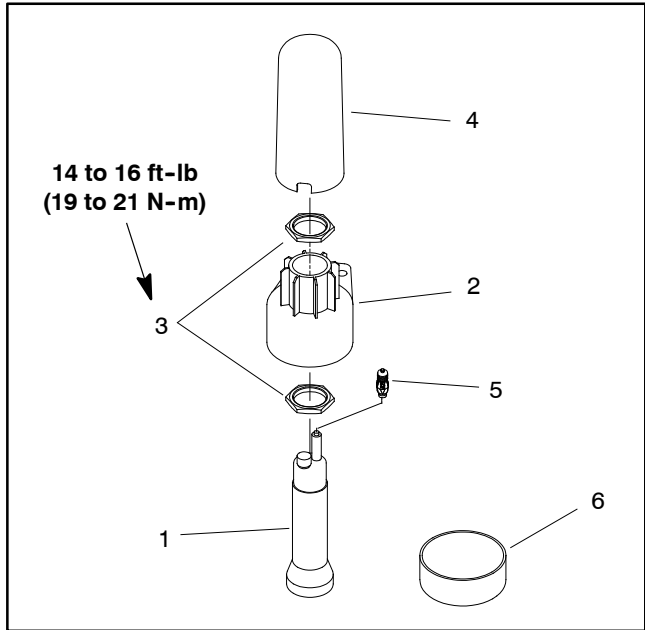

Figure 17
Two (2) identical sonic sensors are used in the Ultra Sonic Boom System. The sensors are mounted to the spray booms (Figs. 17, 18 and 19). During sprayer operation with the sonic boom switch in the automatic position, the sonic sensors will provide inputs for the Toro electronic controller (TEC) to keep the booms at a constant distance from the ground.